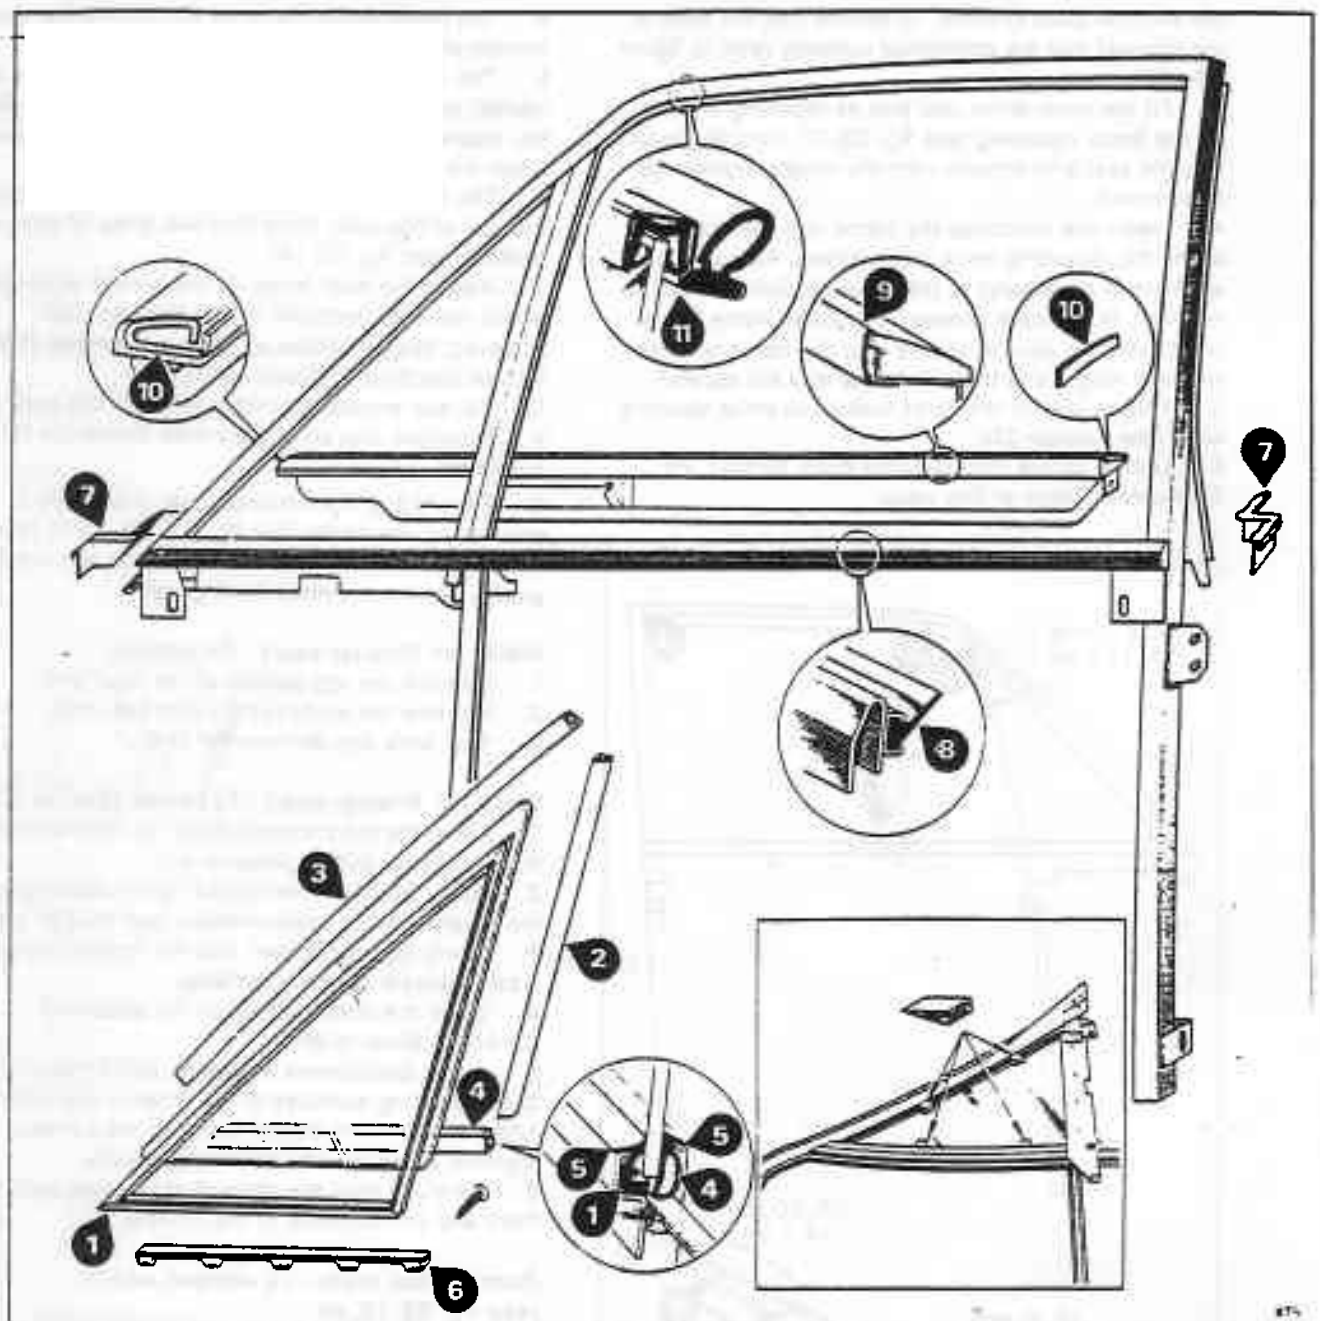

Fig. S3-11 Quarter window and door seals
10. If necessary, remove the window channel seal, fence moulding seal, and the end seals between the door and frame (see fig. S3-11).
Quarter window glass and seals - To remove (see fig. S3-11)
Quarter window glass and seals - To fit (see fig. S3-11)
2. Fit the moulded outer seal (see fig. S3-11, item 1) into the door frame with the outer lip of the seal sitting on the flange of the frame channel. Work the seal carefully into each corner.
Check that the outer seal has not been disturbed, then fit wedges to hold the glass in the correct position (see fig. S3-11 inset).
The seals should be fitted so that the lip of each seal fits over the channel (see fig. S3-11, item 5).
fig. S3-11, item 7) and door using Bostik Cleaner 6001; allow to dry. Apply Bostik Primer 9252 to the bonding surface of the door. Allow approximately one hour to dry.
3. Fit the outer waist seal into its retaining channel on the fence moulding (see fig. S3-11, item 8). Ensure that the seal is in contact with the vertical frame legs at each end.
Waist rail finisher seals - To renew (see fig. S3-11)